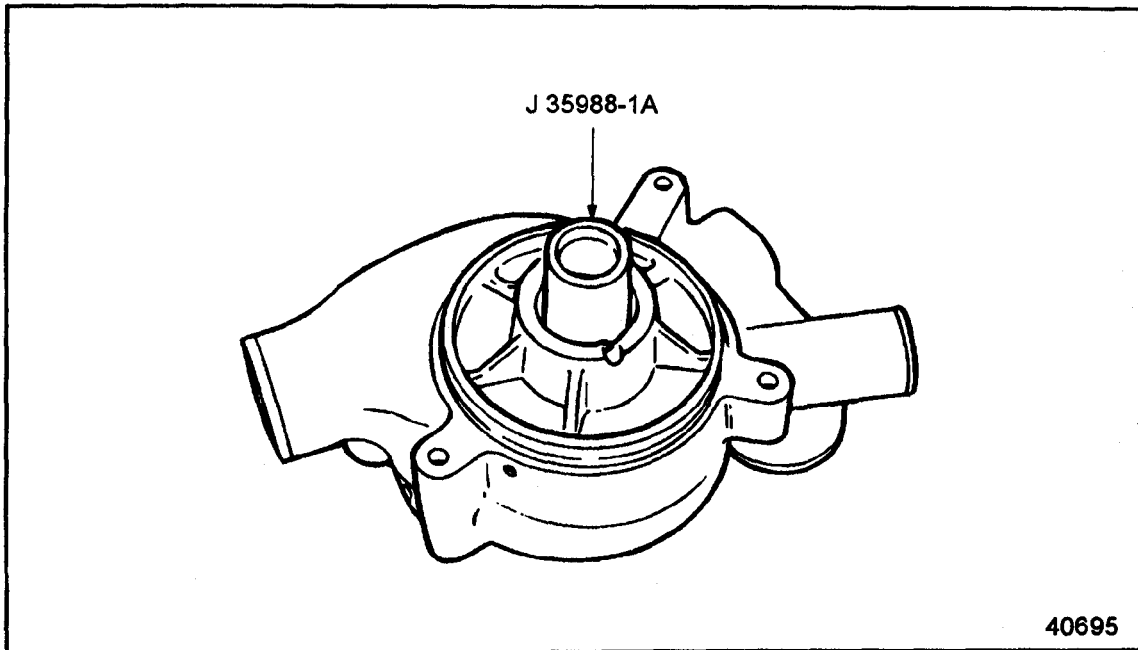

Figure 4-21 Oil Seal Installation (GCM)
3. Place the small end of tool J 35988-1A, part of tool set J 35988-B, into the water pump housing until it contacts the oil seal. See Figure 4-21.